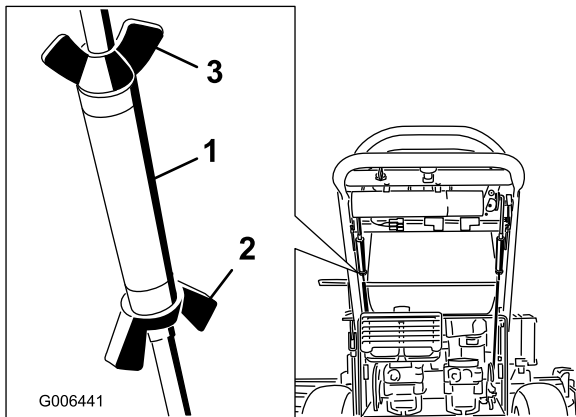

Figure 45
3. Secure the turnbuckle in position with the wing nuts (Figure 45).
5. Secure the turnbuckle in position with the wing nuts (Figure 45).